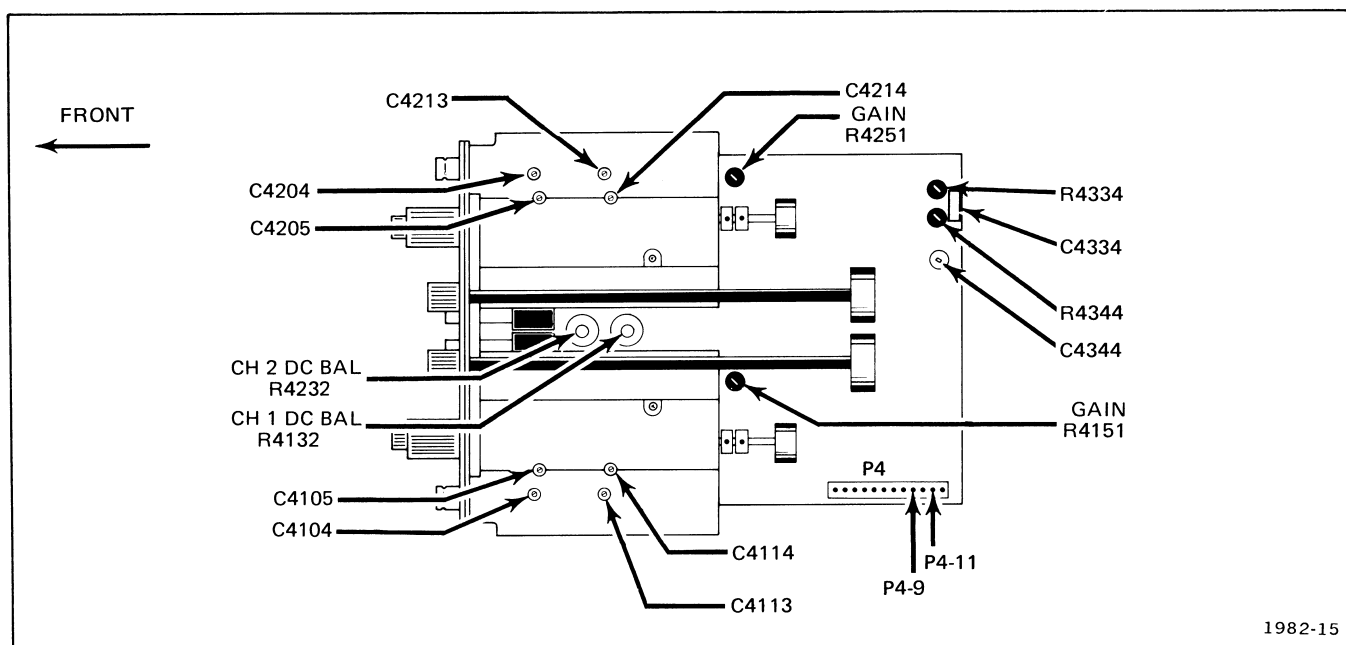
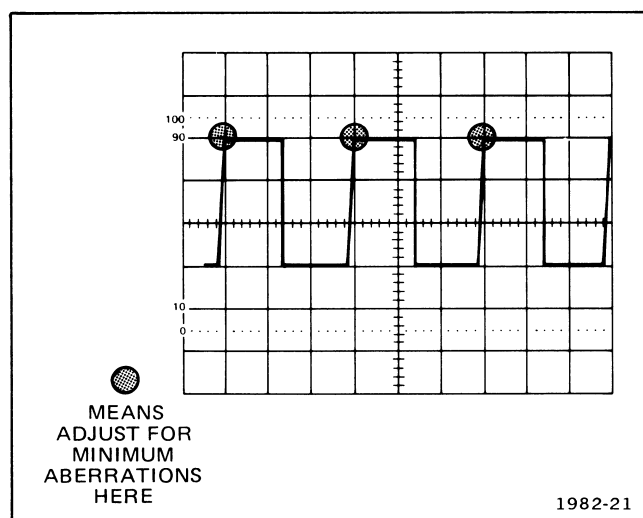

Fig. 4-4. Vertical amplifier adjustment locations (bottom view of T912).
Fig. 4-6. Display of correct (idealized) attenuator compensation.
a. ADJUST—CH 1 DC BAL, R4132 (see Fig. 4-4), for no trace shift while switching CH 1 VOLTS/DIV control between 2 mV and 10 mV.
c. ADJUST—CH 2 DC BAL, R4232 (see Fig. 4-4), for no trace shift while switching CH 2 VOLTS/DIV control between 2 mV and 10 mV.
c. Connect digital voltmeter between P4-9 and P4-11 (see Fig. 4-4). Select range on meter for at least 500 mV reading.
c. ADJUST—Gain, R4151 (see Fig. 4-4), for 4-division display.
e. ADJUST—Gain, R4251 (see Fig. 4-4), for 4-division display.
e. ADJUST—R4334, C4334, R4344, C4344 (see Fig. 4-4), and C133 (see Fig. 4-2), for best front corner of waveform using low capacitance screwdriver.
c. ADJUST—C4114 (see Fig. 4-4) for best square front corner (see Fig. 4-6 for example).
e. ADJUST—C4105 (see Fig. 4-4) for best square front corner (see Fig. 4-6 for example). Disconnect test equipment.
c. ADJUST—C4214 (see Fig. 4-4) for best square front corner (see Fig. 4-6 for example).
e. ADJUST—C4205 (see Fig. 4-4) for best square front corner (see Fig. 4-6 for example). Disconnect test equipment.